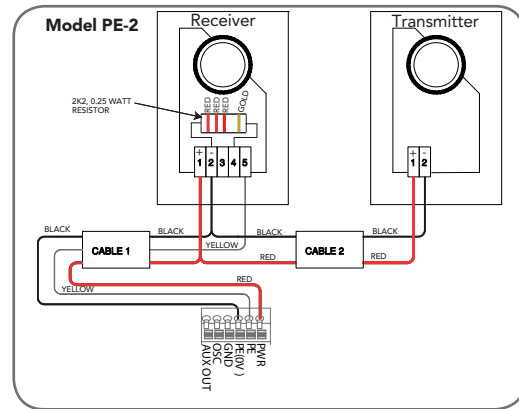

fig 45
- Connect the wires from the P.E. wiring harness to terminal block (**Fig. 45**). The wiring diagram is for Model PE-2 (Order Code 90214).